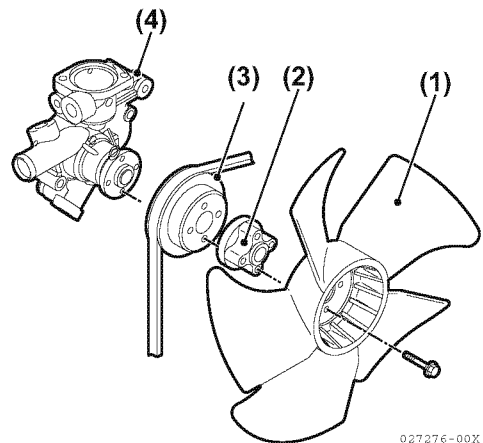

Figure 8-4
4. Remove the engine coolant fan guard (if equipped), engine coolant fan (Figure 8-4, (1)), spacer (Figure 8-4, (2)) and engine coolant pump V-pulley (Figure 8-4, (3)).
6. Remove the engine coolant pump (**Figure 8-4, (4)**). Discard the gasket.